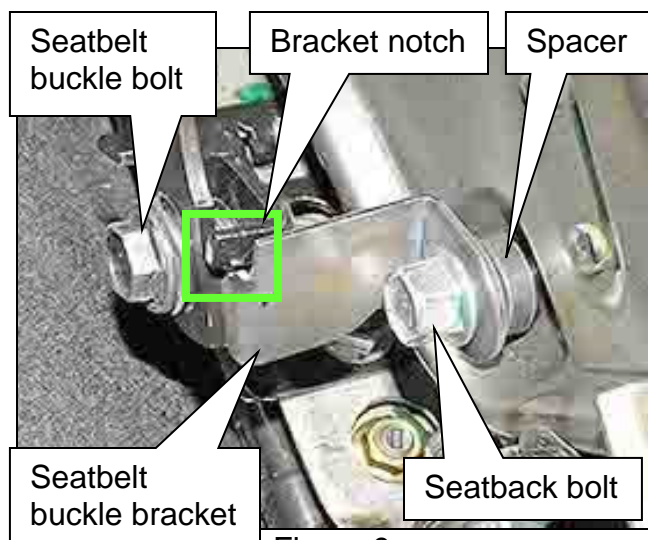

Figure 9
- Position bracket notch as shown in Figure 9.